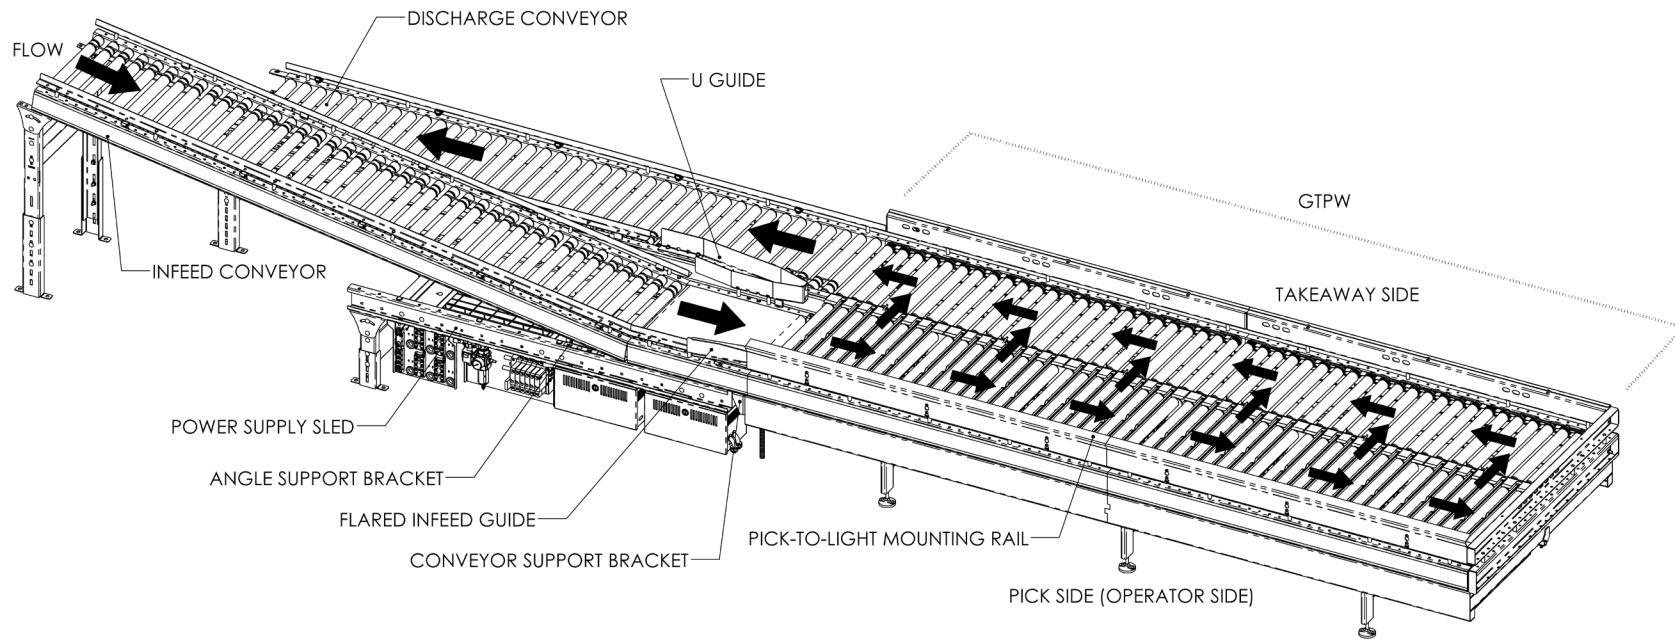
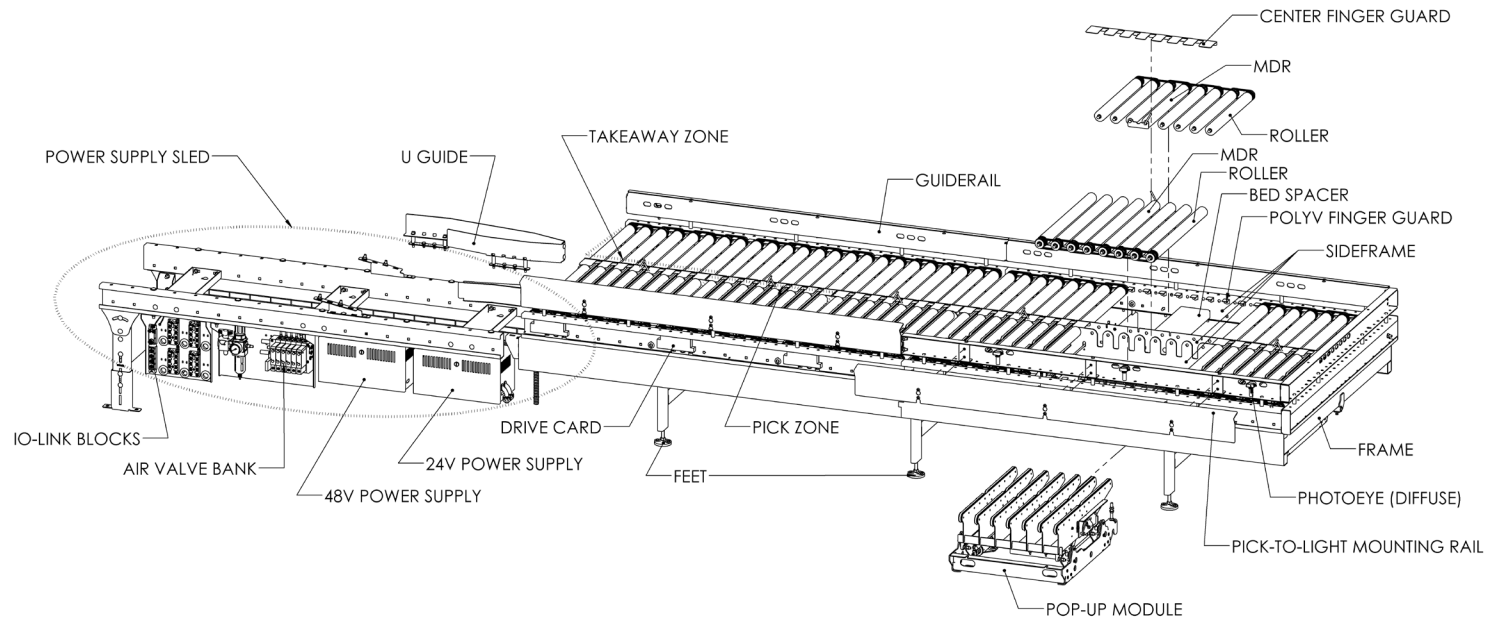

Figure 1-GTPW Typical Installation
Figure 2-GTPW General Arrangement
The Goods-to-Person Workstation (GTPW) conveyor consists of a series of air-actuated right-angle transfers mounted between the rollers of a 24V DC roller zero pressure conveyor. GTPWs are used to present cartons to operators for filling or emptying at multiple “pick zones” along one side of the conveyor. Once the carton is filled, it will transfer over to the parallel takeaway conveyor and additional cartons will index forward. Figure 1 shows a typical installation of a GTPW and the surrounding conveyor with flow arrows indicating the possible flow paths through the GTPW.
The GTPW is packaged with its power supplies, I/O, and pneumatic controls mounted to a “sled” that is fully assembled to the GTPW in the factory in order to reduce the amount of onsite labor and installation time required. This power supply sled is field-mounted underneath the conveyor feeding into the GTPW. Figure 1 shows a typical installation where the power supply sled includes angle brackets and an additional floor support so that it can also be used to support one end of the infeed conveyor. Installations may vary; see the site-specific system layout and installation drawings for details.
The model shown in Figure 1 and Figure 2 serves as a reference to become familiar with the components and terminology used in this manual. These terms will be used throughout the manual and are common among many of the other Bastian Solutions' conveyor product lines.
The model shown in Figure 1 and Figure 2 shows a 6-position "right hand" GTPW with 24" zone length. This means the GTPW has (6) pick zones, each containing an air-actuated pop-up transfer module mounted between the rollers of a 3" roller center DC zone. Each pick zone contains (1) diffuse photoeye. The workstation is a "right hand" model because when viewed standing at the infeed conveyor and looking in the direction of flow, the pick side or operator's side is on the right. Most systems contain both "right hand" and "left hand" GTPW models so a pair of GTPWs can be installed with the pick sides facing a shared operator area.
Each pop-up transfer consists of a pneumatic cylinder that lifts a row of "blades" into the product from below. The blades each contain a single timing belt and fit between rollers of the pick zone. The blade belts are driven by a 48V DC servo motor. The transfer operation accelerates the product such that it will slide onto the adjacent rollers of the takeaway zone. Figure 2 shows an exploded view with a pop up module removed from the GTPW.
In normal operation, cartons enter the pick zones along an infeed conveyor downlane (shown in Figure 1) that would be installed directly above the power supply sled. They are then indexed along to one of the pick zones, where an operator interacts with the carton (either adding or removing products). The provided pick-to-light (PTL) mounting rail is used to mount indicator lights for each pick zone that would tell the operator which carton to pick from or put to, as well as a pushbutton for each pick zone that the operator can use to trigger a transfer when the picking operation is completed. Once the operator completes the picking operation, the pop-up transfer actuates and transfers the carton onto the takeaway zone, which then runs to discharge the carton onto takeaway conveyor running parallel to the infeed conveyor. Once a product is transferred off of a pick zone, the upstream products will index down to the next pick zone, allowing additional cartons to enter the GTPW regardless of which pick zone the carton was in when it was transferred. In most picking operations multiple cartons will be picked to simultaneously, increasing throughput and operator efficiency.
- b. Figure 5 shows how the power supply sled is positioned in its shipping position, upside down on the GTPW conveying surface. Cable bundles (not pictured) connect the sled with the GTPW. The unconnected end of the sled (indicated by the curved arrow) is lifted and rotated to turn the sled upright and position it to the location it is shown in Figure 2 (in section 3).
- b. See Figure 1 (in section 3) for a view of a typical installation including infeed and discharge conveyor sections mated to the GTPW.